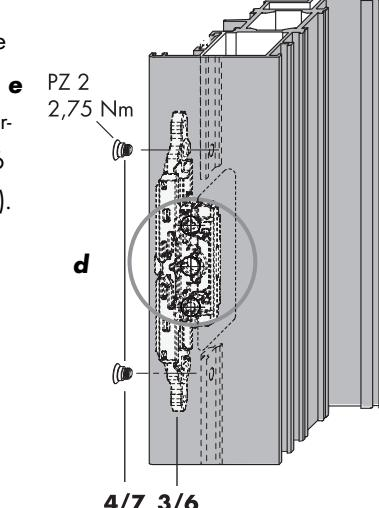

Figure 3
- d Insert ESG LM M6 / ESG LM FBS M6 (3/6) into the processed section 72 x 15 (Figure 3).
- e Screw SG LM M6 / ESG LM FBS M6 (3/6) in operating rod punch hole Ø 5.2 using coupling screw M6 (4/7) (PZ 2, torque 2.75 Nm ± 0.25 Nm) (Figure 3).